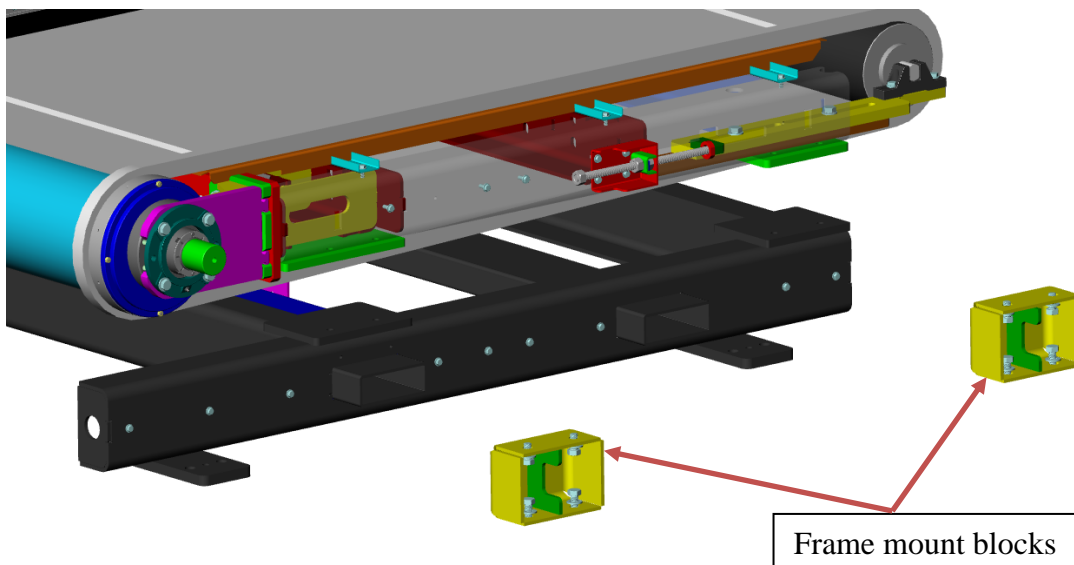

Figure 4
5. Remove the frame mount blocks from the non-drive side of the unit. Four $\frac{3}{4}$ -10 hex head bolts secure each frame block, two to the upper frame and two to the lower. See **Figure 4**.